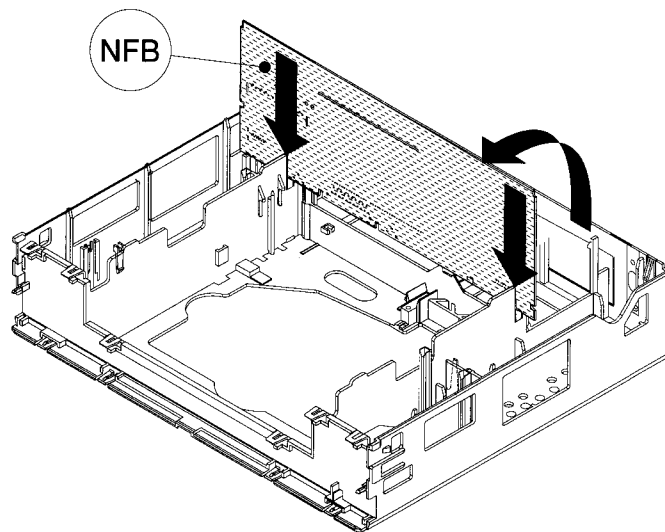

Fig. 7
- Now lift the MFB, NFB turn it into the service position (see fig. 7) and place it into the slots provided.